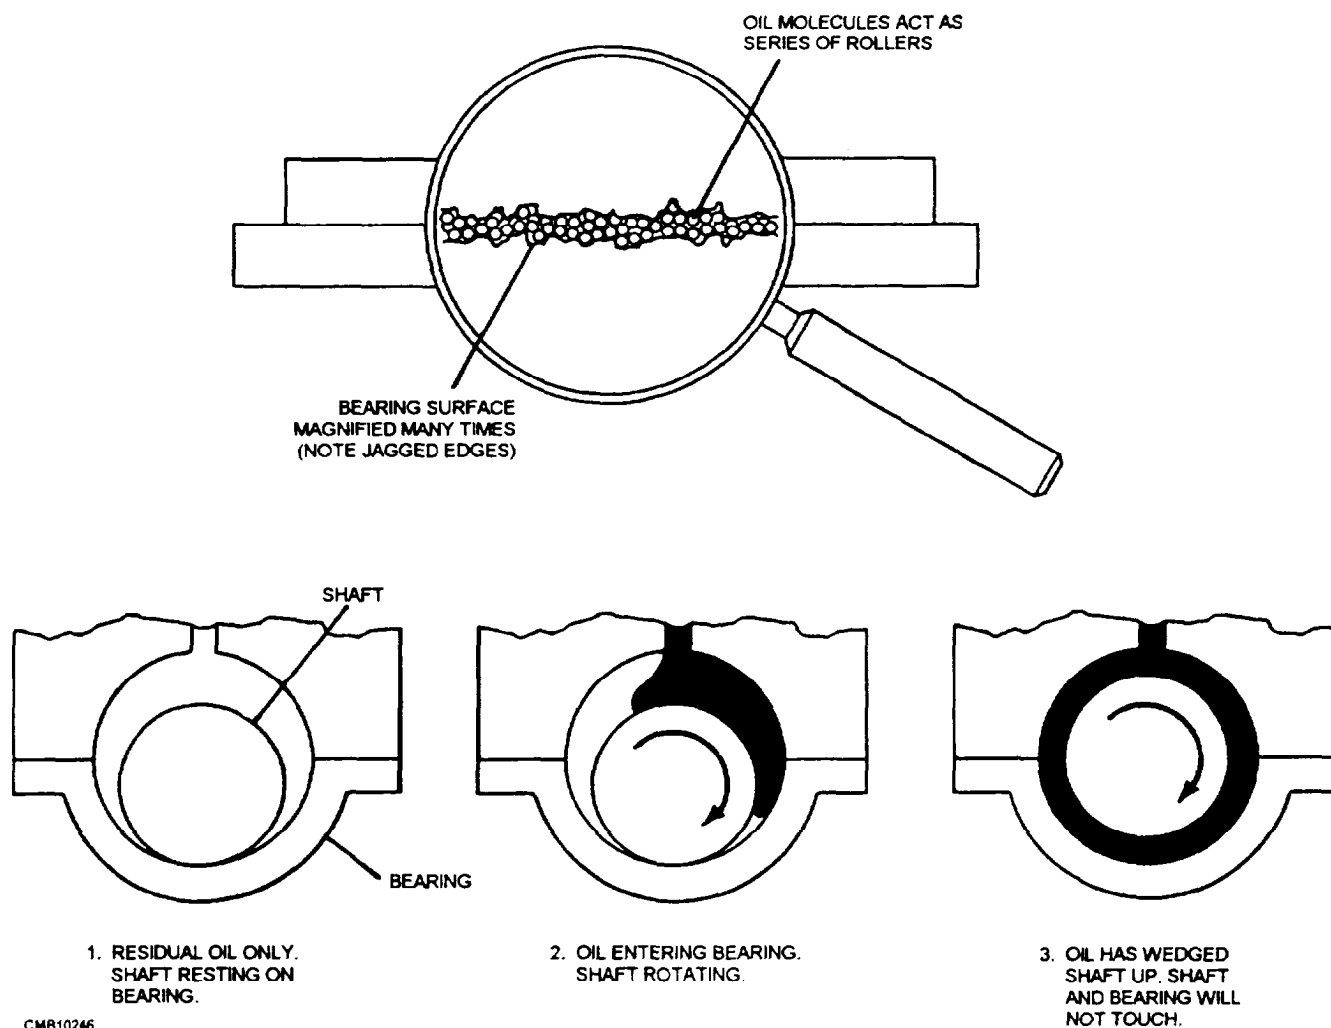

Figure 6-18.—How oil lubricates.
- Reduces friction and wear between moving parts (fig. 6-18).